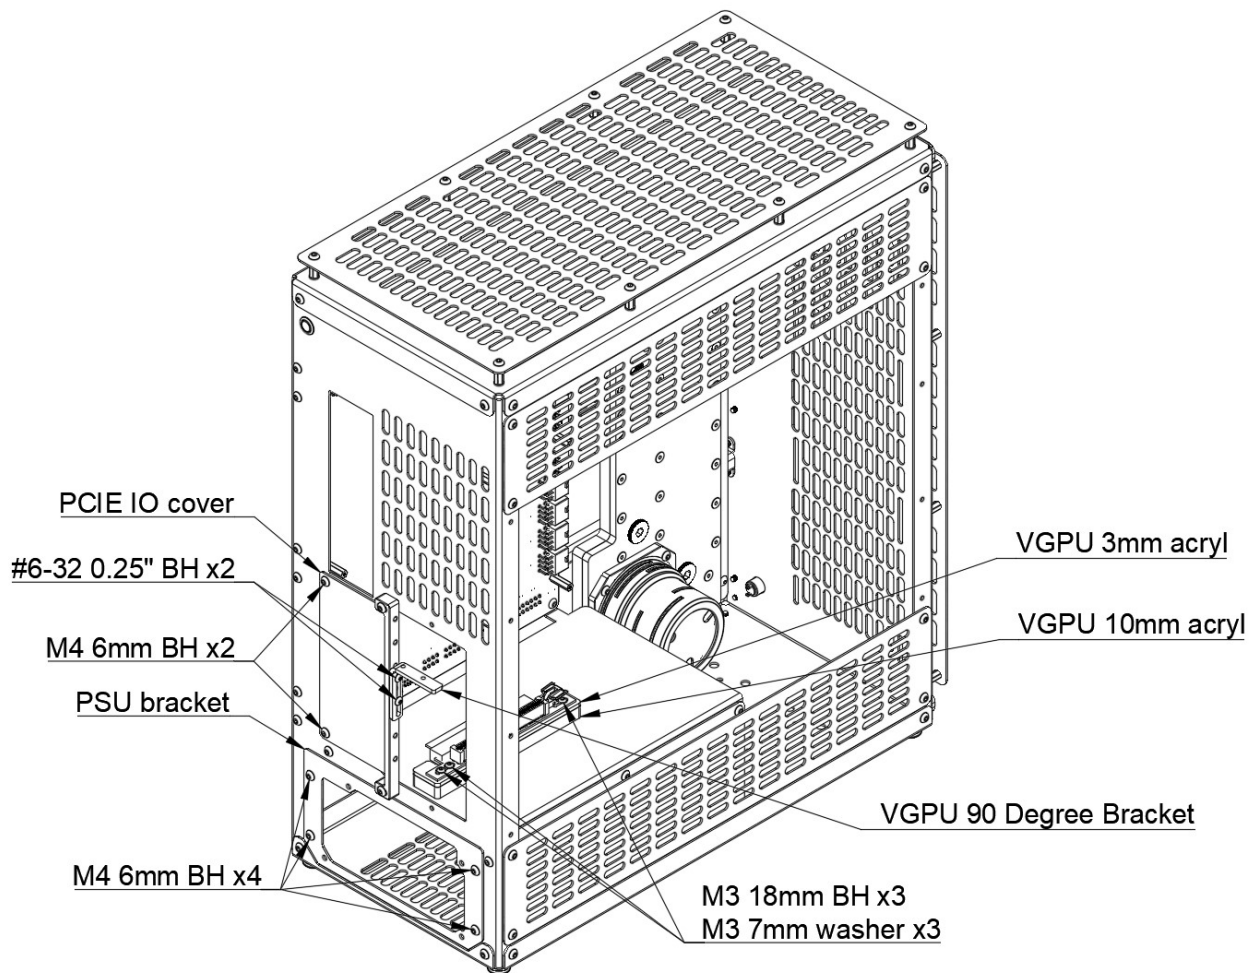

Figure 6A
- **Step 17:** If a Vertical GPU mount is used then install the VGPU 90 Degree Bracket to the PCIE Mount using #6-32 0.25" BH x2 and then the PCIE IO cover using M4 6mm BH x2 according to *Figure 6A*.
- **Step 18:** Then install the VGPU acryl 3mm black and 10mm clear mount with the PCIE riser cable using M3 18mm BH x3 with M3 7mm washer x3 to the PSU top panel according to *Figure 6A*.
- **Step 19:** Install the power supply to the PSU bracket using #6-32 0.25" x4 then slide in and secure the assembly to the Rear Panel using M4 6mm BH x4 according to *Figure 6A*.